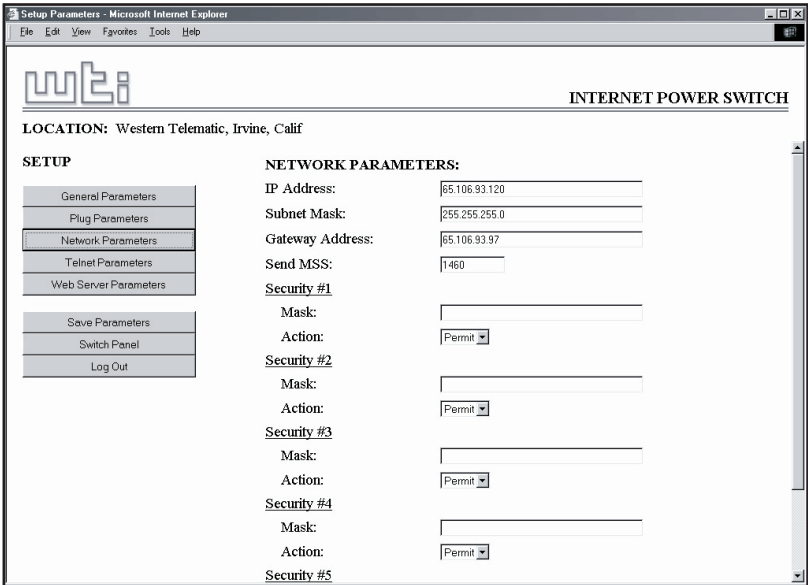

Figure 5.7: Network Parameters Menu - Web Browser Interface
Web Browser Interface: Click the "Setup" button to access the Setup Menus, and then click the "Network Parameters" button. The Web Parameters Menu will be displayed as shown in Figure 5.7
- a) **Web Browser Interface:** The IP Security feature is configured using the fields at the bottom of the Network Parameters Menu as shown in Figure 5.7.